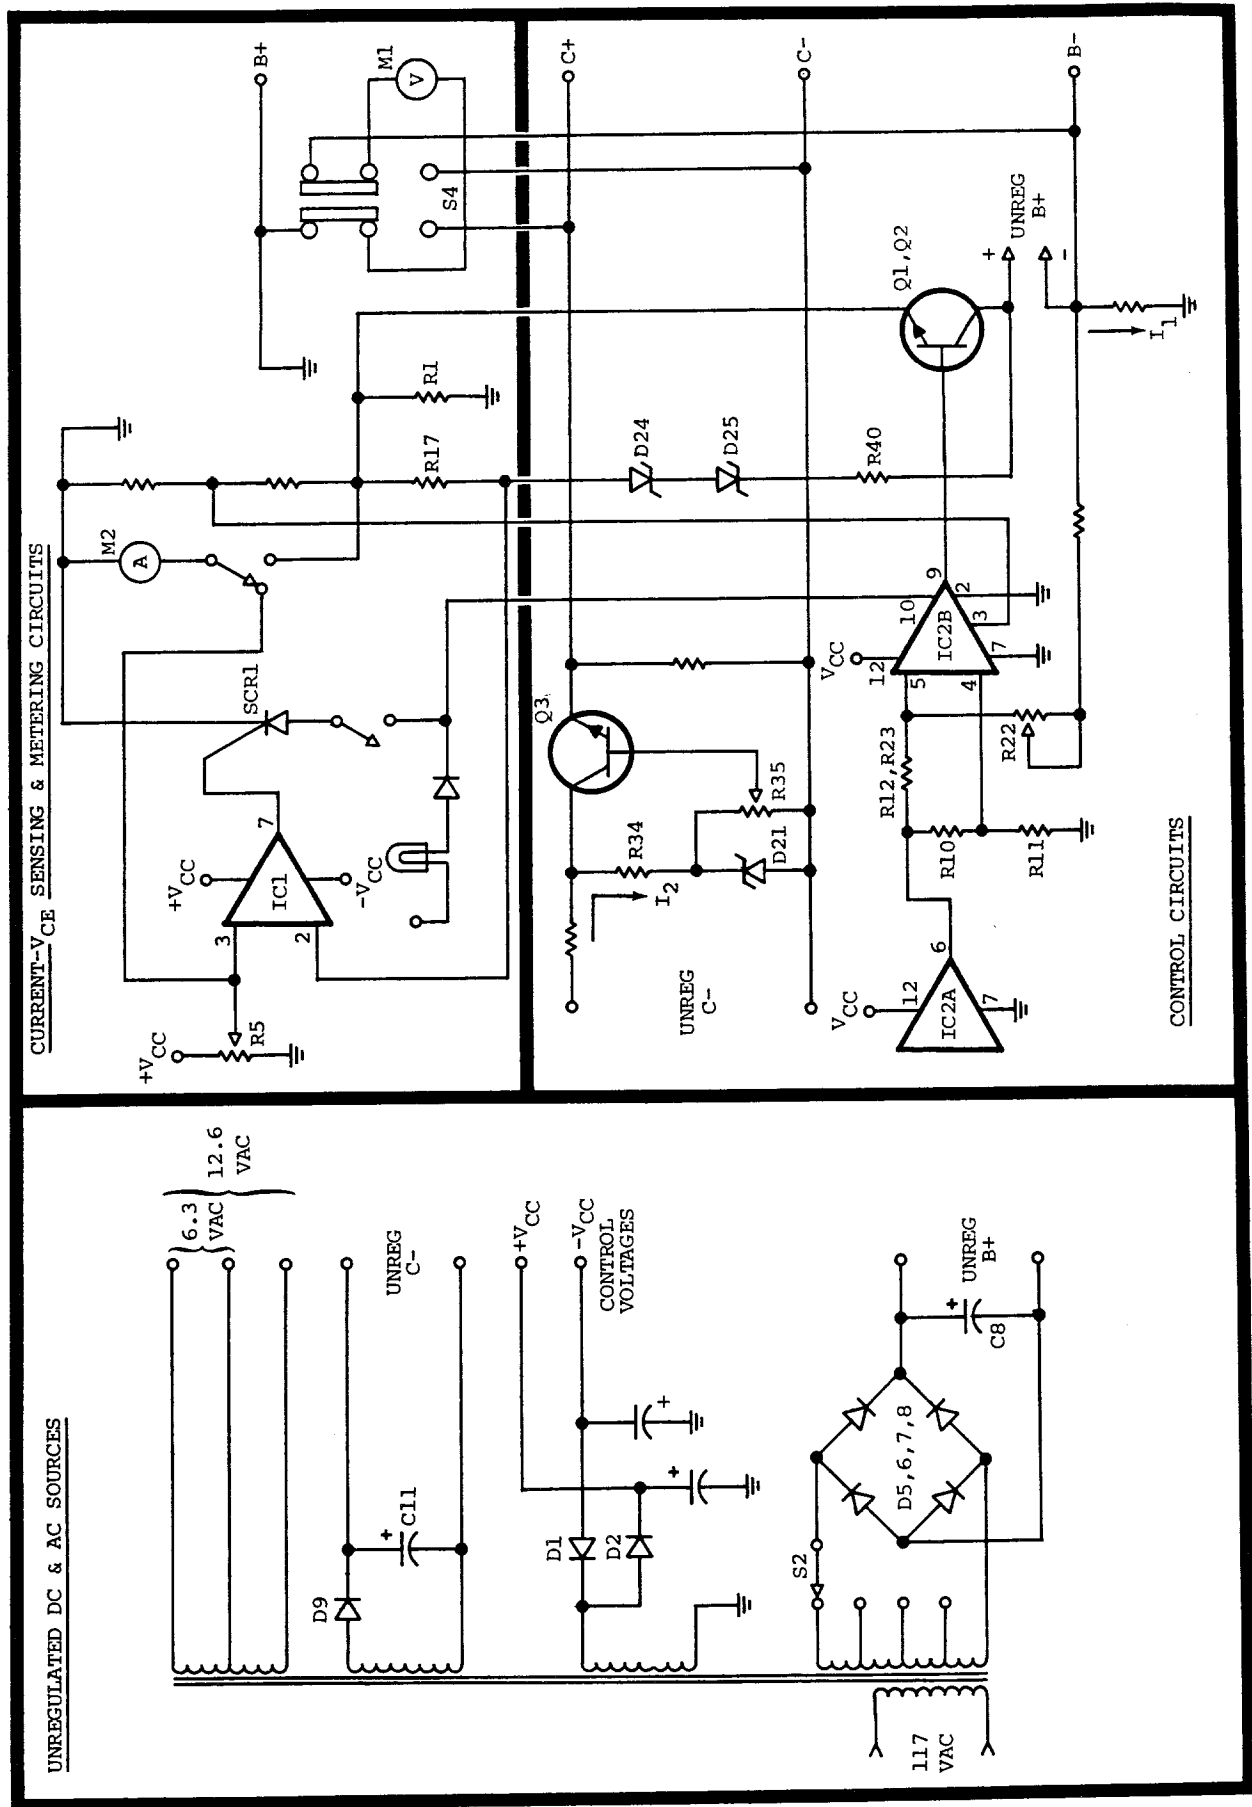

Fig. 7. Functional Diagram.
4. Metering: Monitors the B+ or C- voltage, and the B+ output current. Refer to Fig. 7, the functional diagram and to the schematic diagram. Circuit descriptions make constant reference to these diagrams.